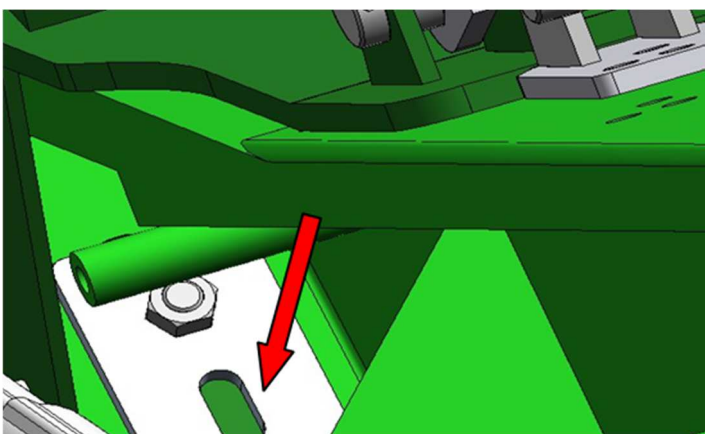

Figure 29
Secure the rapeseed header extension to the lower slide shoe on the right and left-hand side using a strap (N) and bolt (Figure 29), (Figure 30)